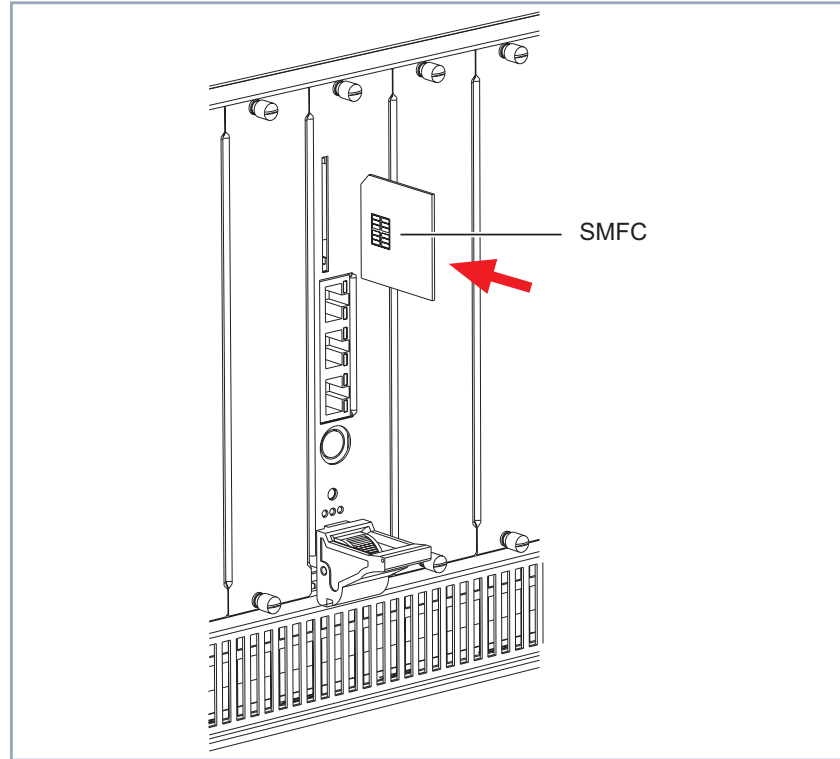

Figure 4-9: Insert SMFC into its slot
- ▶ Insert the optional Smart Media Flash Card into the "Smart Media Flash Card" slot on X8A-SYS (see figure 4-9, page 46, "SMFC"). Further detailed information on X8A-SYS can be found in figure 5-4, page 73.